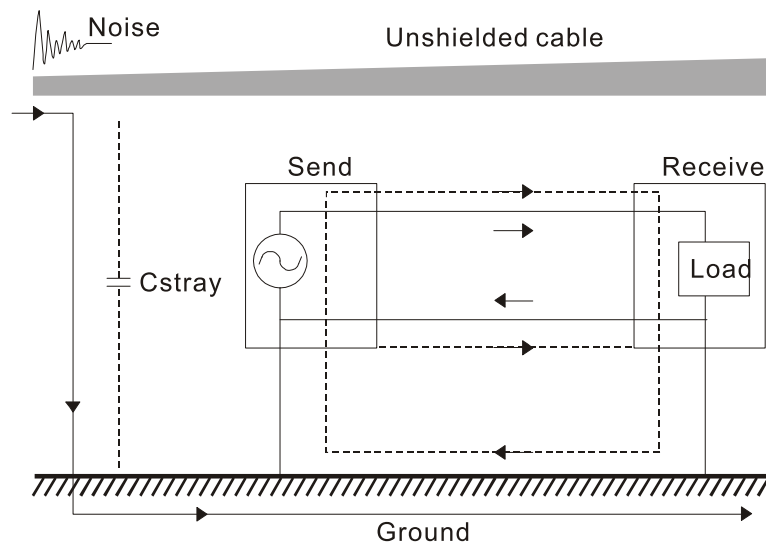

Figure A-1
1. Noise current in the unshielded power cable is conducted to ground via stray capacitances into a common-mode voltage. Whether or not other modules are capable to resist this common-mode noise depends on their Common-Mode Rejection Ratio (CMRR), as shown in Figure A-1.